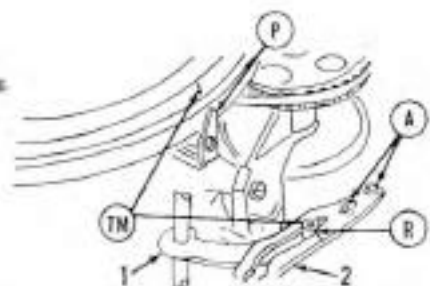

Fig. Mc121—Schematic view of ignition timing mechanism used on three cylinder models. Refer to text.
To install a drive belt or time the distributor, refer to Fig. Mc120. Remove the spark plugs to easily rotate the flywheel. Turn the flywheel until the "TDC" timing mark is on a line running through center of crankshaft and center of distributor shaft as shown at (A). Turn the distributor gear until the marked tooth bisects the same line as shown, then install the drive belt. Drive belt tension should be adjusted to 1/8-1/4-inch deflection midway between the pulleys by means of shims (11—Fig. Mc119). Shims are available in thicknesses of 0.005, 0.0142 and 0.025. To adjust the advance cam, turn the flywheel until the "TDC" timing mark (TM—Fig. Mc121) is aligned with timing pointer (P) as shown. Loosen the two screws (A). Attach one clip of a test light (See Fig. Mc108) to the primary terminal of the distributor, ground the other clip, then move the breaker plate back and forth to the point where the test light bulb just goes out. Position the spark advance cam (2—Fig. Mc121) and cam roller (3) so that roller is centered in the timing marks (TM) then tighten the screws (A). To adjust the maximum advance, move the speed control lever